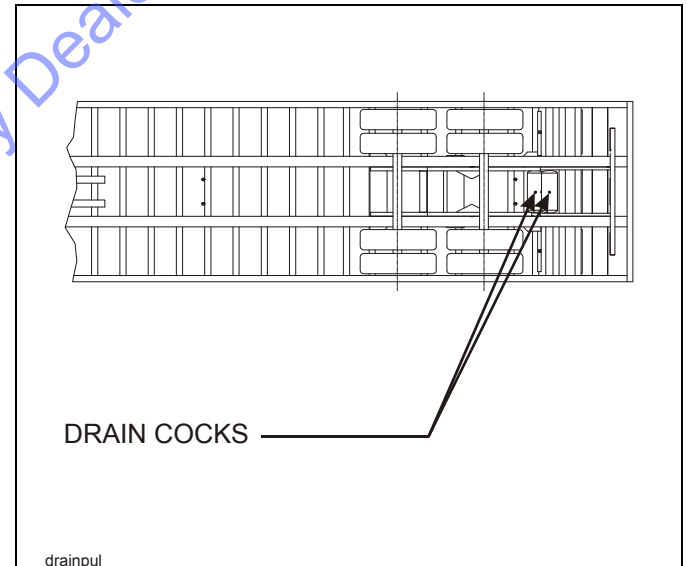

Figure 4-8: Drain Cock Locations
4. Drain air reservoir daily. A drain cock on the bottom of each air reservoir vents the tank to drain collected water and oil. If held open, air pressure in the tanks is relieved, causing the emergency or parking brakes to be applied (**See Figure 4-8.**)